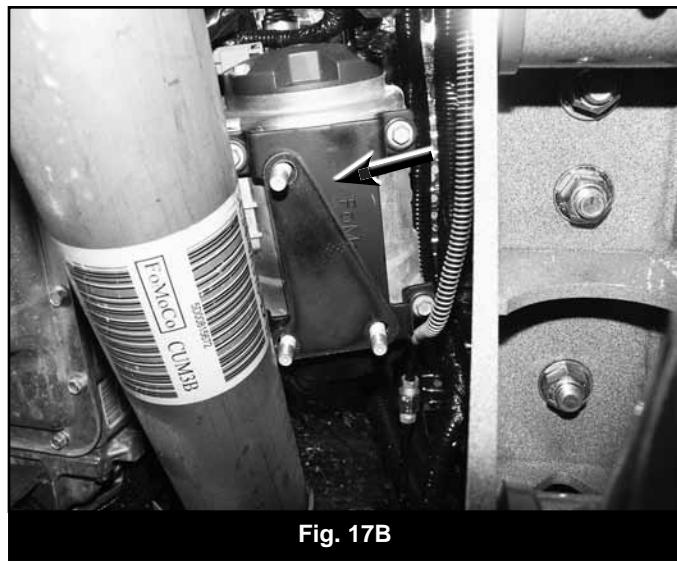

Fig. 17B
41. Install the provided fuel module spacer plate over the 3 studs of the fuel module bracket and reinstall the module in the original holes with the factory nuts (Fig 17B). Torque nuts to 20 ft-lbs.